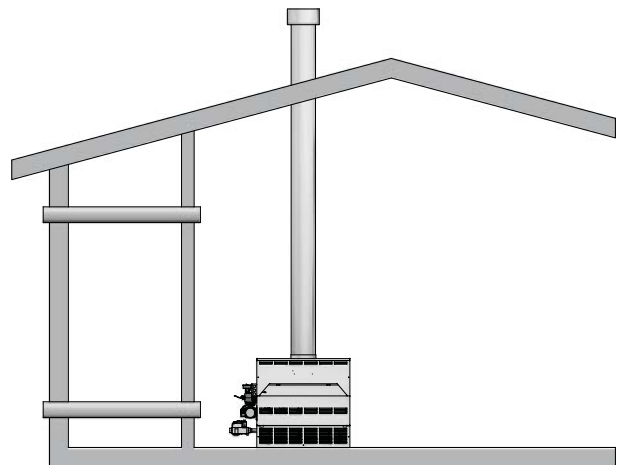

Figure 1-4 *Combustion Air Through Ducts*
2. If combustion and ventilation air is taken from the outdoors using a duct to deliver the air to the room where the appliance is installed, each of the two openings should be sized based on a minimum free area of one square inch per 2000 Btu/hr (11cm² per kW) (see FIG. 1-4).